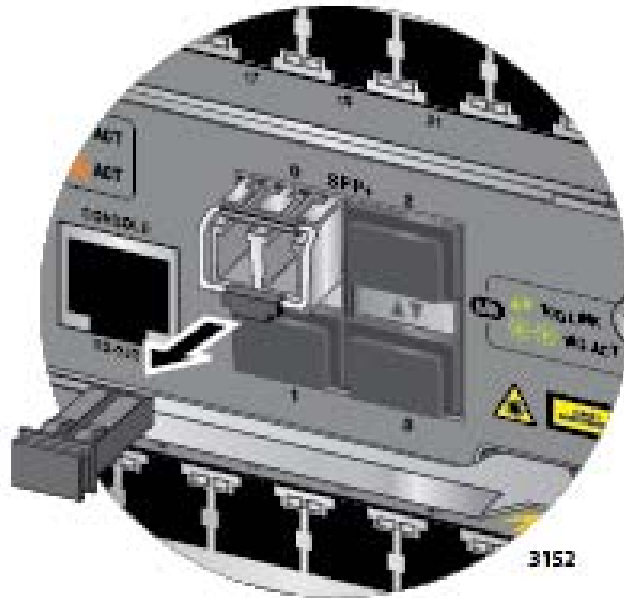

Figure 115. Removing the Dust Cover from an SFP or SFP+ Transceiver in the AT-SBx31CFC960 Controller Fabric Card
4. Remove the protective cover from the transceiver, as shown in Figure 115 on page 182.